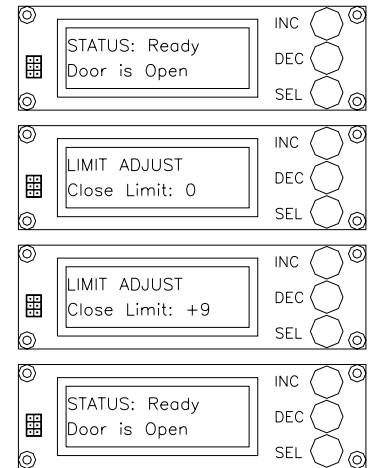

FIG. F4
- c. **Adjust Closing Limit Switch** using the Display and the three Buttons provided (Figure F4).